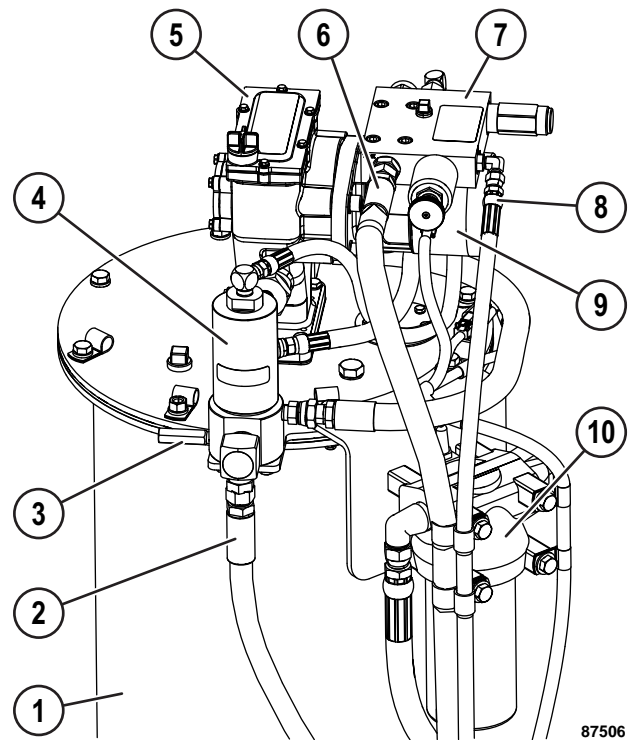

FIGURE 10-1. AUTO LUBE PUMP AND RESERVOIR COMPONENTS
Bleeddown manifold (5, Figure 10-1) is located on the outside of the left frame rail just behind the accumulators.
Flow amplifier (4, Figure 10-1), located on the left frame rail in front of the accumulators, provides the steering circuit with the high volume of oil required for the steering cylinders.
Hydraulic oil for pump operation is supplied through the auxiliary hydraulic system. Grease pump (5, Figure 10-1) is driven by the rotary motion of hydraulic motor (9), which is then converted to reciprocating motion through an eccentric crank mechanism. The pump is a positive displacement, double-acting type as grease output occurs on both the up and the down stroke.